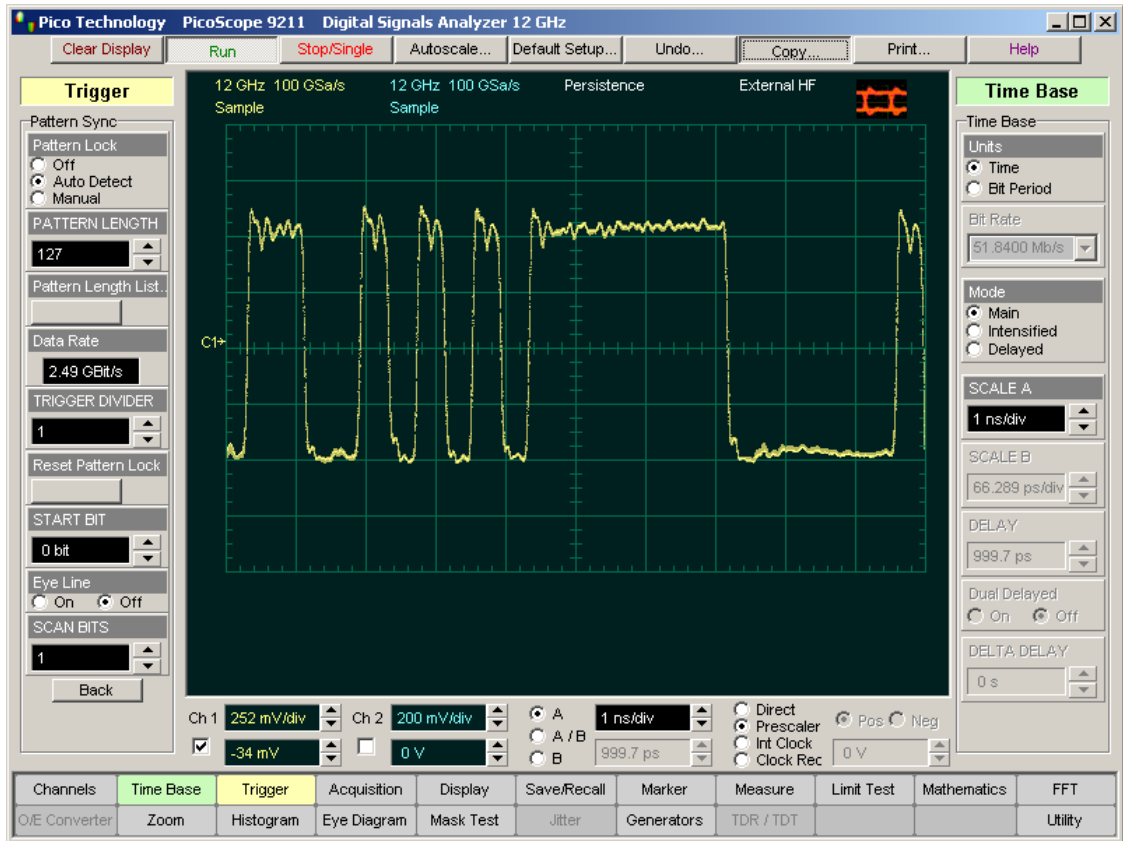

Figure 3
- Set **SCAN BITS** to 32. See Figure 3.